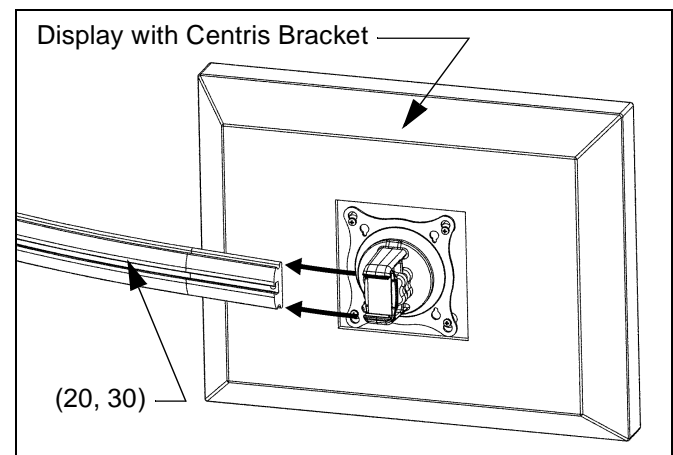

Figure 11: Mount Display with Centris Bracket to Array Rail
7. Slide display with Centris bracket onto array rail (20, 30) (see Figure 11).